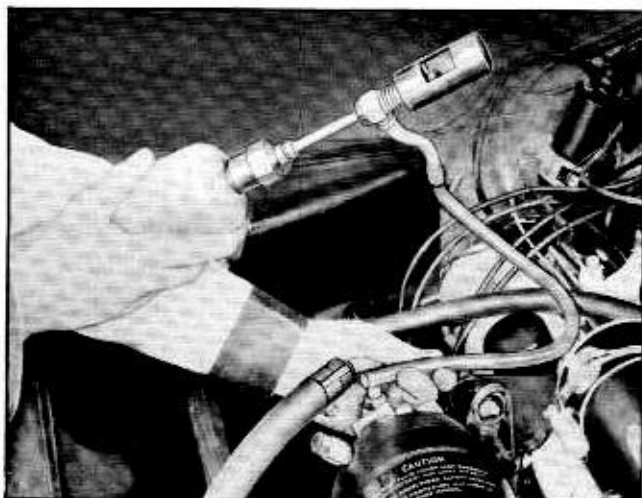

Fig. 6-43 Checking for Leaks
4. Check for refrigerant leaks (Fig. 6-43) and observe the refrigerant passing through the liquid indicator with system operating to see if there is any evidence of bubbles (above 70°F. ambient).